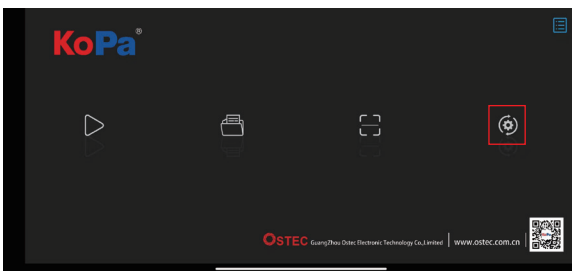
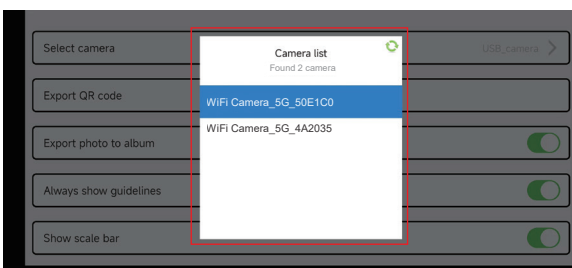

Figure 1
Figure 3
- (1) Connect the cell phone or tablet that supports 5G WiFi IEEE802.11ac protocol to the same local area network as the camera.
- (2) Install and run the App KoPa WiFi Lab on the phone or tablet, enter the navigation interface and click the "▶" button.
- (3) When there is only one network camera in the local area network, the App can automatically get the live image from the camera.
- (4) When there are multiple network cameras in the same local area network, click the icon "⚙️" in the navigation interface (Figure 1), pop-up menu (Figure 2). The list automatically shows all cameras in the current local area network (Figure 3), select a camera as needed, support switching midway at any time.